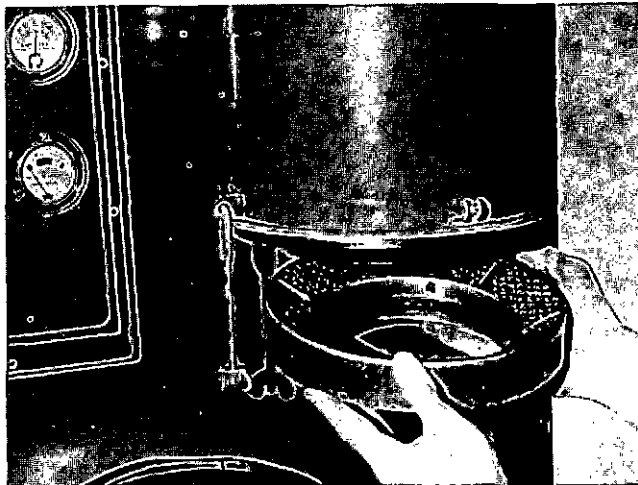

Fig. 5-16, N11002. Removing air cleaner tray screen
1. Remove tray screen (1, Fig. 5-16) from air cleaner body by a twisting or turning motion.